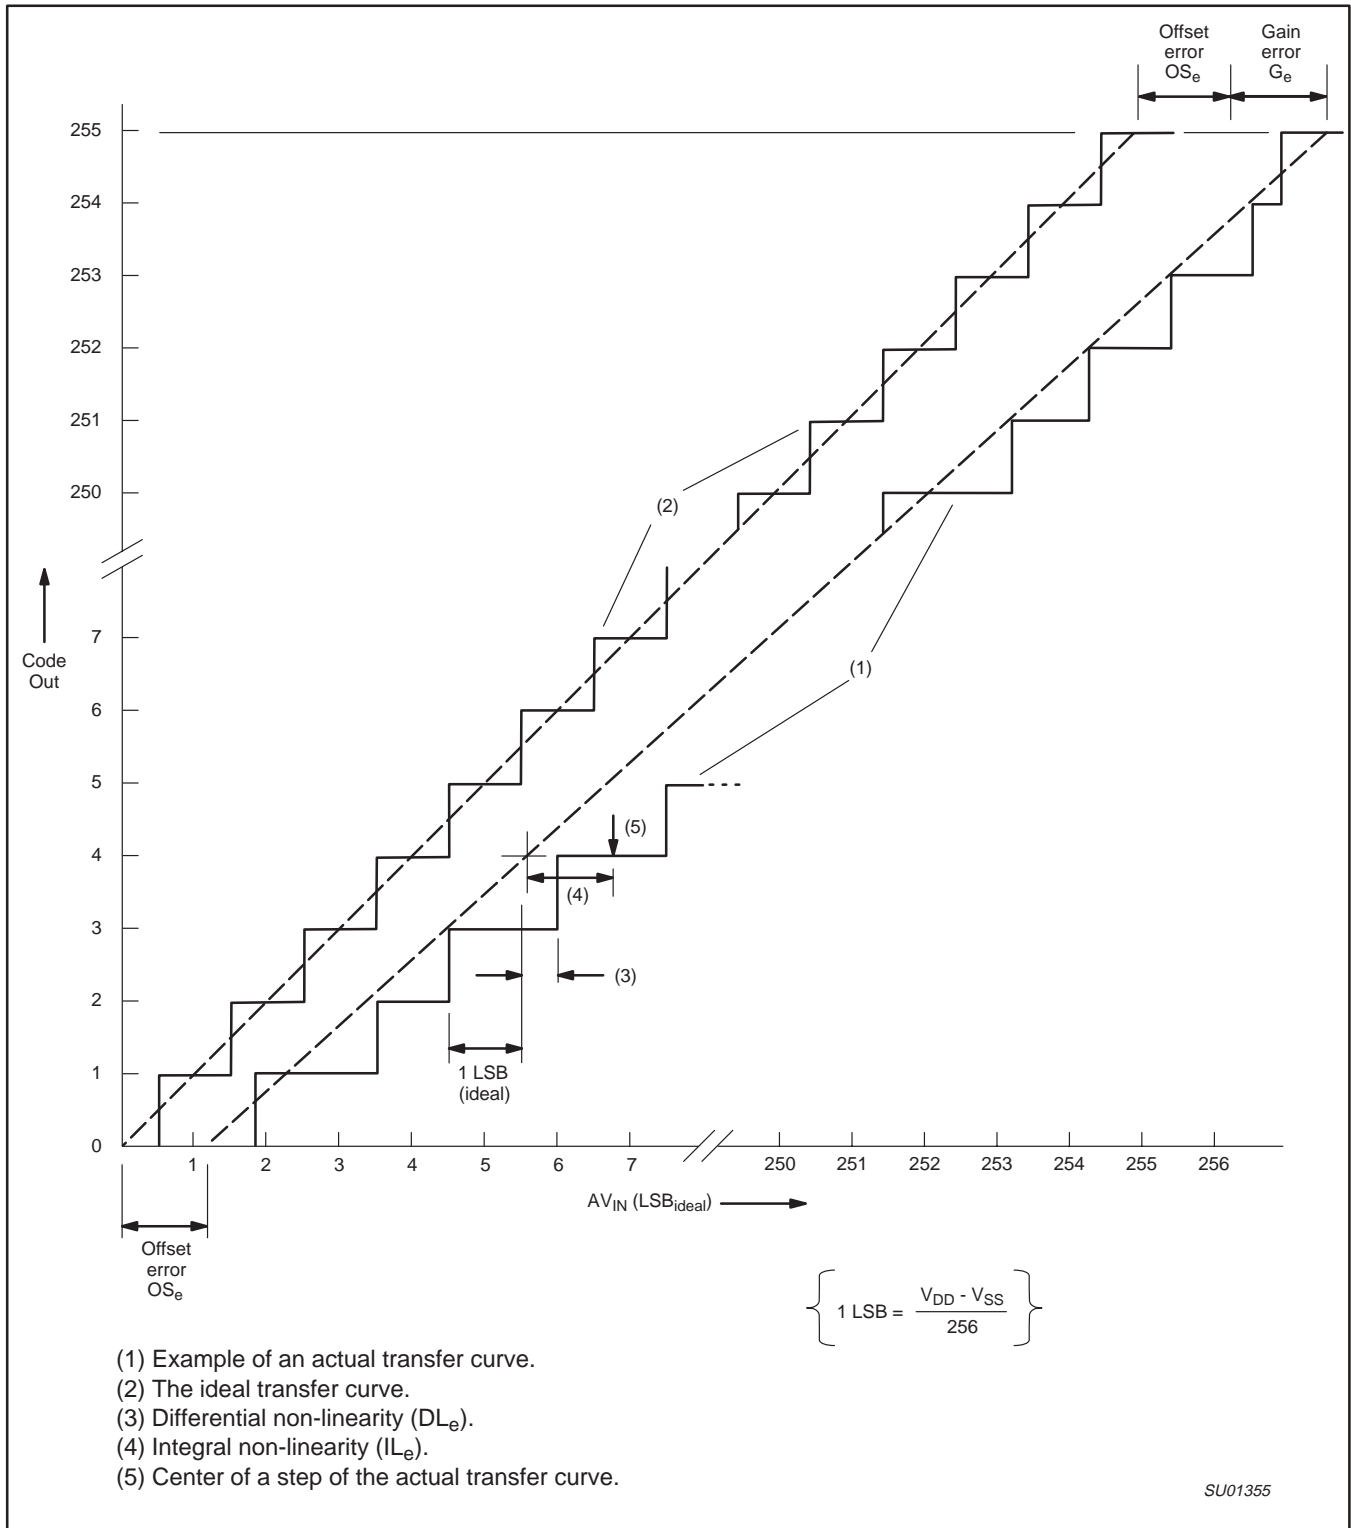

Figure 40. A/D Conversion Characteristics
3. The differential non-linearity (DLe) is the difference between the actual step width and the ideal step width. See Figure 40.
4. The integral non-linearity (ILe) is the peak difference between the center of the steps of the actual and the ideal transfer curve after appropriate adjustment of gain and offset errors. See Figure 40.
5. The offset error (OSe) is the absolute difference between the straight line which fits the actual transfer curve (after removing gain error), and the straight line which fits the ideal transfer curve. See Figure 40.
6. The gain error (Ge) is the relative difference in percent between the straight line fitting the actual transfer curve (after removing offset error), and the straight line which fits the ideal transfer curve. Gain error is constant at every point on the transfer curve. See Figure 40.